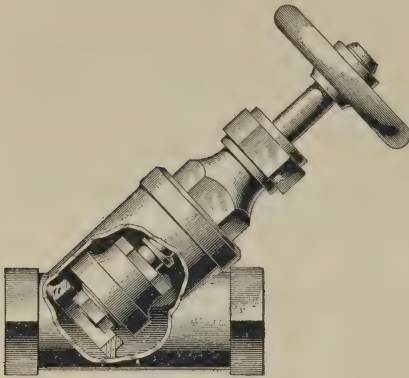

FIG. 71
**109.** The **Y valve**, shown in Fig. 71, is a form of valve that is similar in many respects to the globe valve, but offers less resistance to the flow of the liquid, as the seat *a*